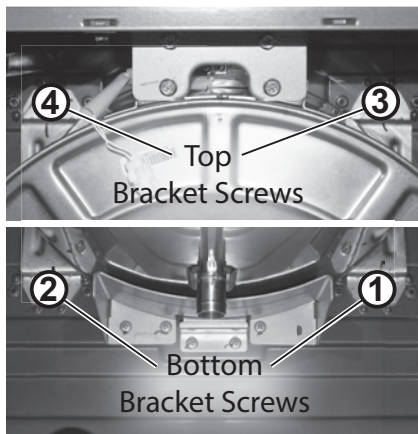

Figure 145 - Locate and remove heat exchanger bracket screws
- 40** Locate the two vertical (2) brackets and four (4) screws securing the heat exchanger to the backside of the water heater cabinet as shown in Figure 145.